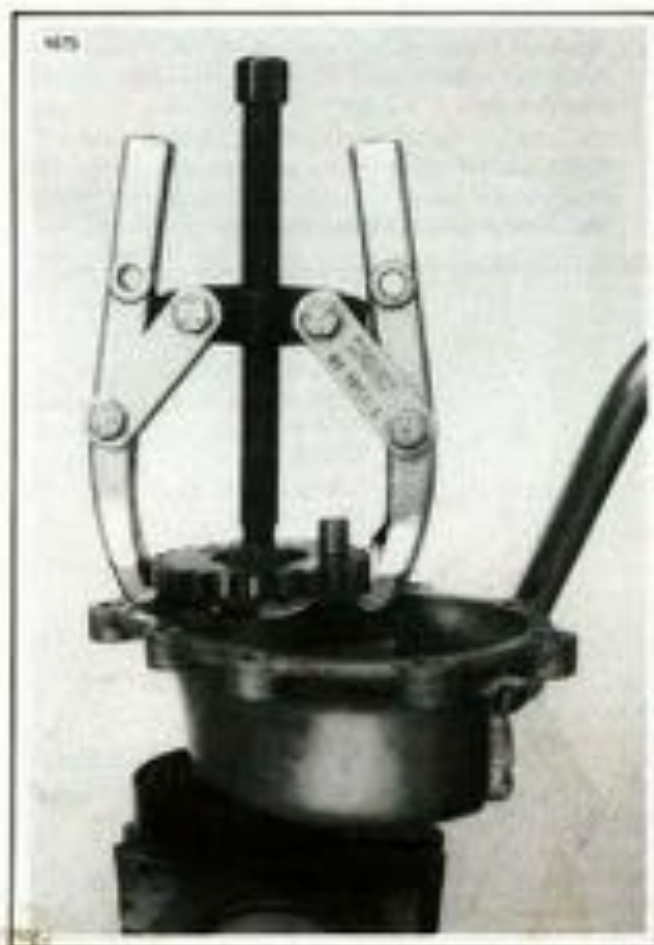

Figure 7-30. Removing Starter Crank Gear
## SIDE COVER-KICK START (Figure 7-30)
5. See Figure 7-30. Place the nut back on the crankshaft. Install Harley-Davidson **ALL-PURPOSE CLAW PULLER**, Part No. HD-95635-46, as shown. Remove the gear and nut.